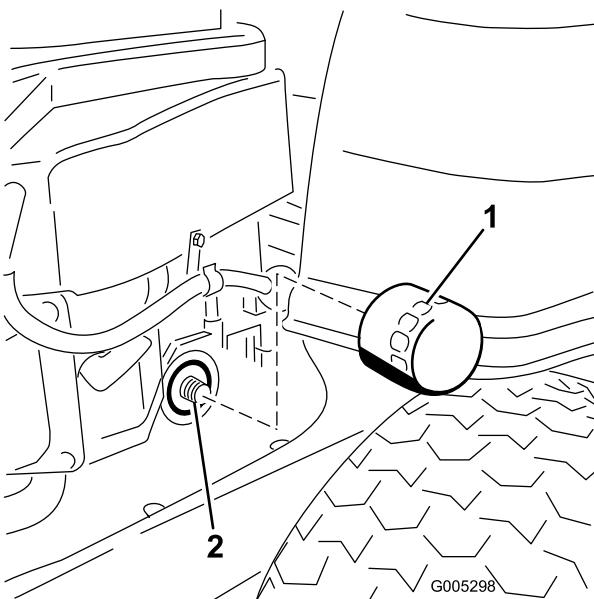

Figure 32
10. Locate the oil filter on the right side of the engine. Remove the old filter and wipe off the filter adapter with a clean cloth (Figure 32).
12. Install the replacement oil filter to the adapter. Turn the oil filter clockwise until the rubber gasket contacts the pad, then tighten the filter an additional 3/4 to 1 turn (Figure 32). Wipe up any excess oil on the frame.